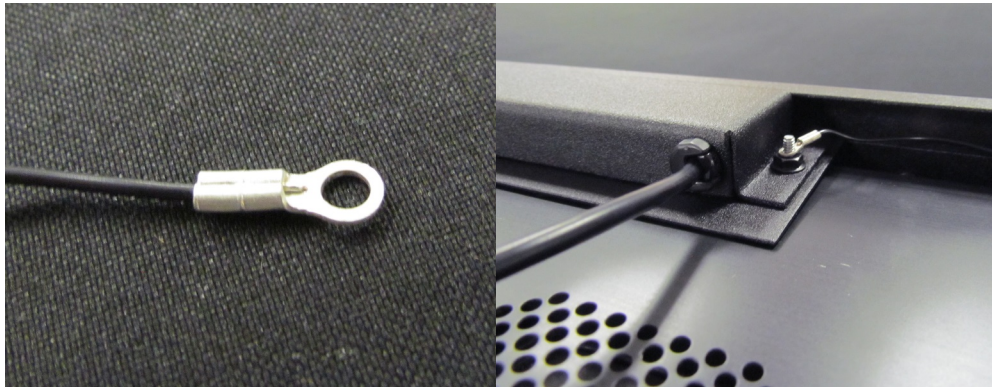

Figure 8a
- 7.2.1 Place the grounding wire on top of the #6-32 serrated hex nut adjacent to the USB cable output, as shown in figure 8a.